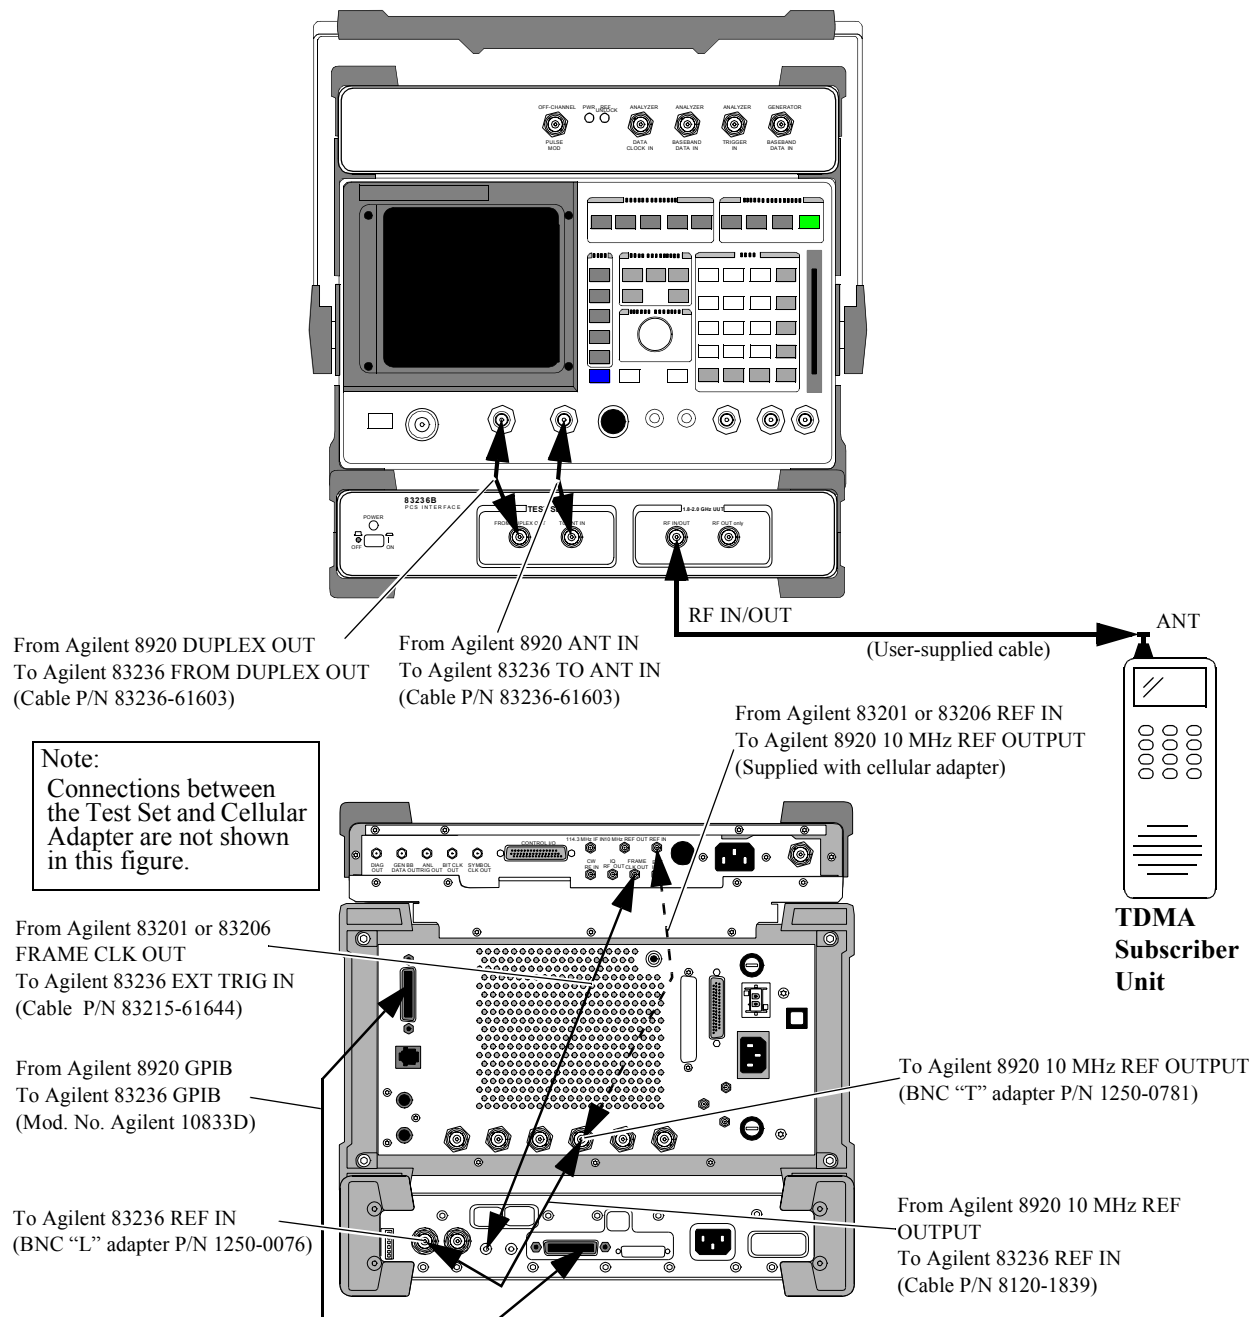

Figure 12
- 2 Make the front and rear panel connections shown in figure 12.